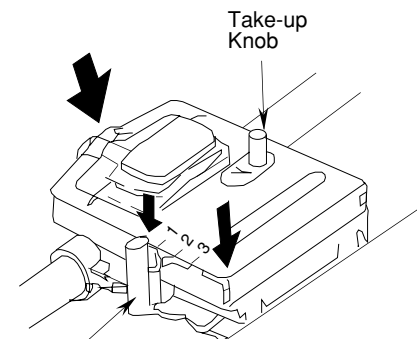

Figure 2
- 3) Turn the take-up knob to tighten the ribbon. Refer to Figure 2.
- 8) Press down on the cartridge to make sure that it is fitted correctly and locked into place. Refer to Figure 2.